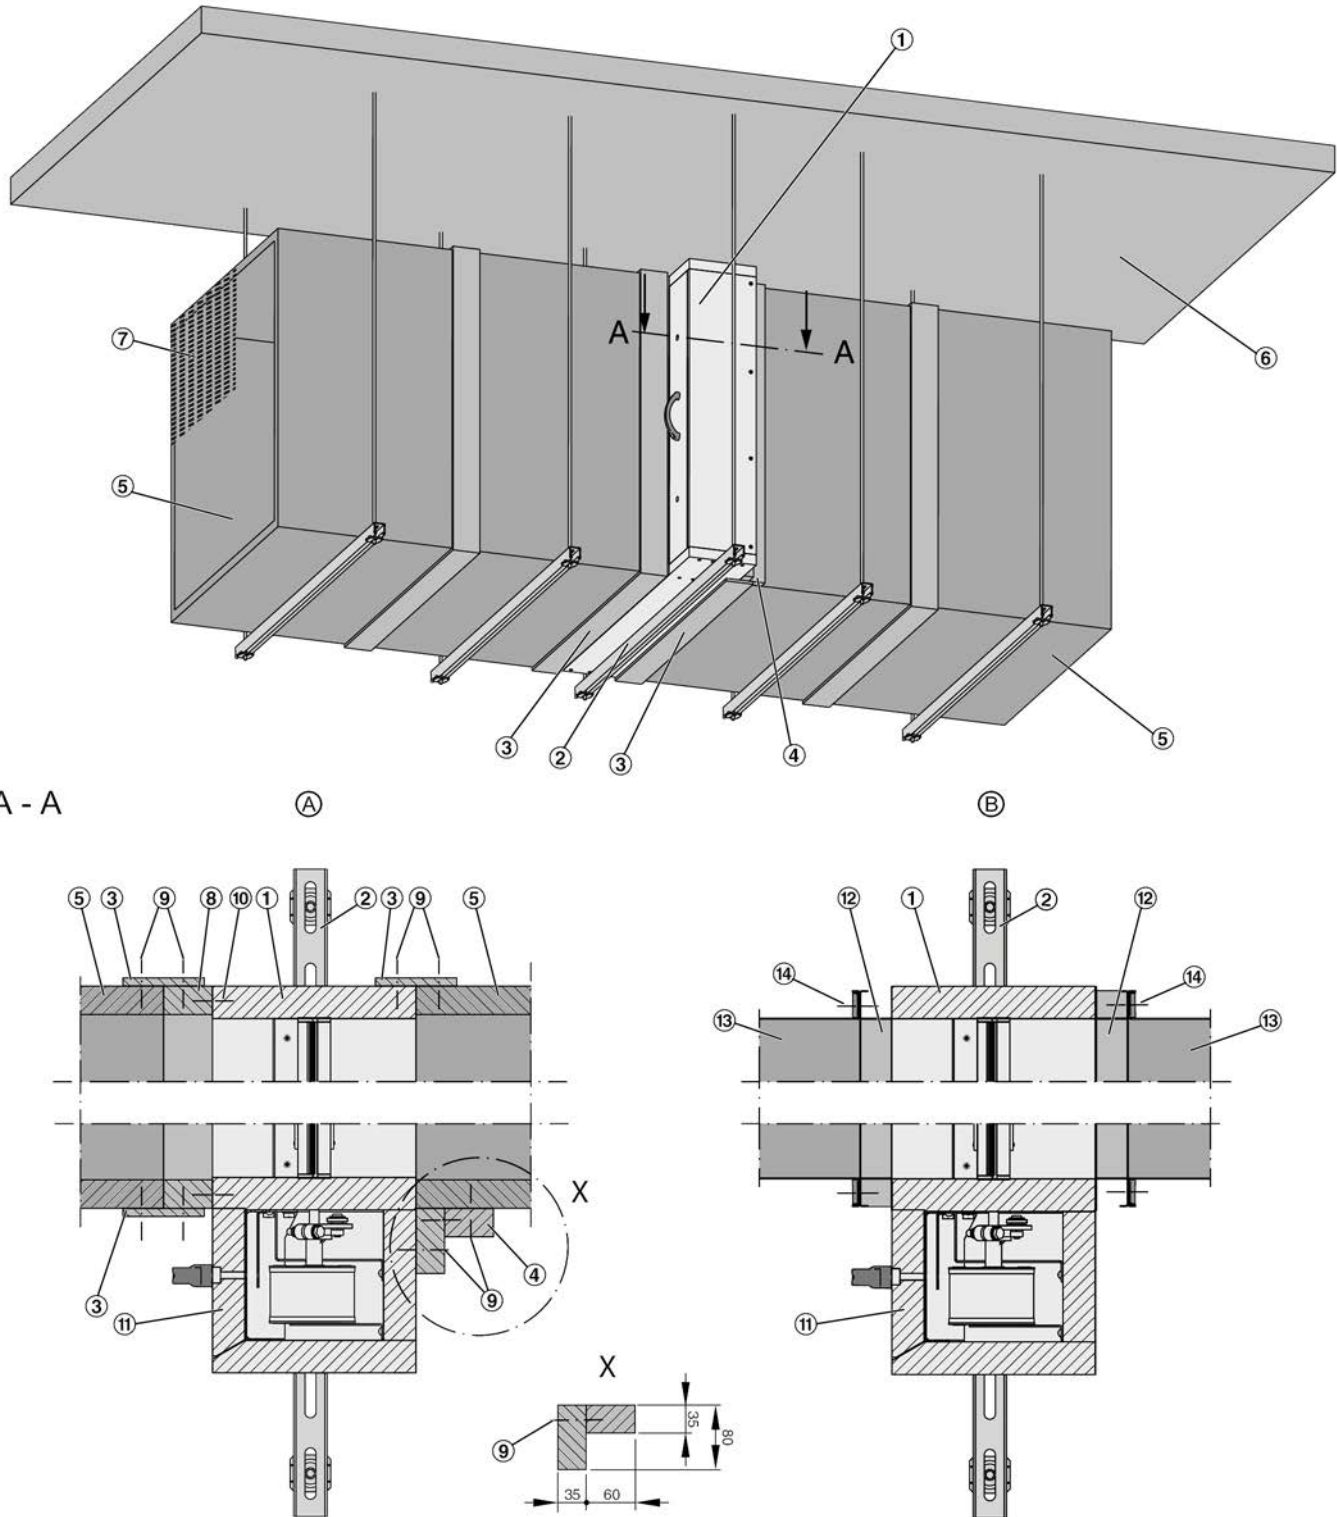

Fig. 32: Installation in a horizontal smoke extract duct
- The actuator encasing must remain accessible for maintenance even after installation (cover, Fig. 32 /11).
1. ▶ Create a connecting subframe ( Fig. 32 /8) of the required length from fire rated PROMATECT®-LS board, d = 35 mm x 60 mm, or equivalent (by others). Use dry wall screws ( Fig. 32 /10) to connect it to the operating side of the smoke control damper. Set the screws ( $\varnothing 6 \times 100 \text{ mm}$ , Fig. 32 /10) along the perimeter (predrill holes  $\varnothing 4 \text{ mm}$ ), set screws at a distance of  $\leq 250 \text{ mm}$ , distance from the edge either 80 mm (H section) or 60 mm (B section). Countersink screw heads!
4. ▶ Fix an angle section ( Fig. 32 /4) between the actuator encasing and the smoke extract duct.
5. ▶ Connect the fire-resistant smoke extract duct to the smoke control damper with a connecting strip ( Fig. 32 /3) ↪ 6 'Smoke extract duct and cover grille' on page 65 .
1. ▶ Suspend the smoke control damper ( Fig. 32 /1) with connecting subframes on both sides (optional; Fig. 32 /12) ↪ 5.9 'Suspending the smoke control damper' on page 64 .
2. ▶ Lead the smoke extract duct ( Fig. 32 /13) up to the smoke control damper, on both sides, and suspend it.
3. ▶ Screw-fix ( Fig. 32 /14) the smoke extract duct to the connecting subframe.